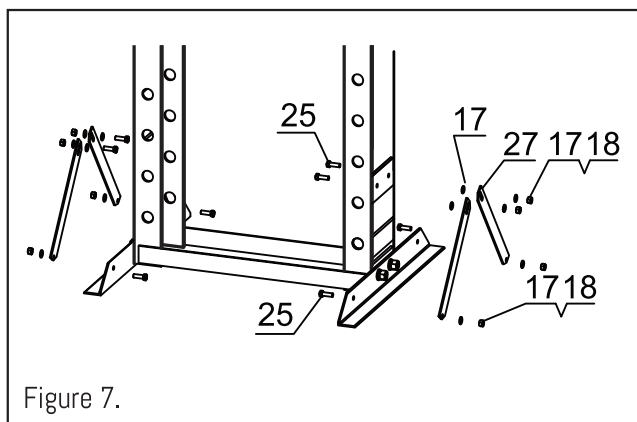

Figure 7.
3. Attach the Base Side Supports (27) to the Frame and Base Support using the Bolts (25), Washers (17) and Nuts (18). See Figure 7.